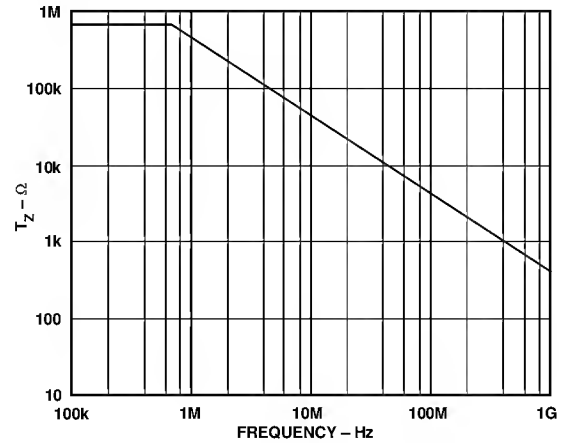

Figure 41. Transimpedance vs. Frequency
Recognizing that $G \times R_{IN} \ll R_1$ for low gains, it can be seen to the first order that bandwidth for this amplifier is independent of gain (G). This simple analysis in conjunction with Figure 41 in fact can predict the behavior of the AD 8001 over a wide range of conditions.